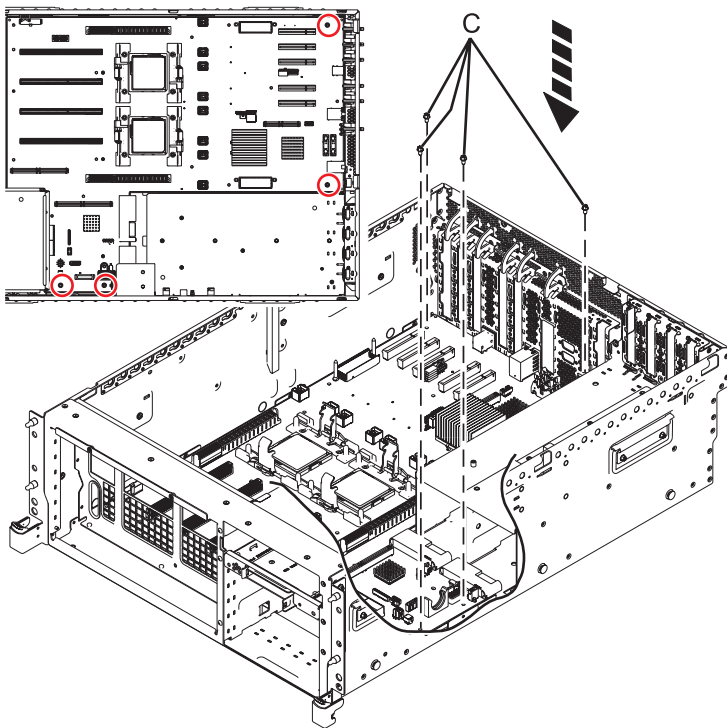

Figure 42. Installing the system backplane
- e. Tighten the four screws (C) that secure the system backplane to the system chassis. See Figure 42.